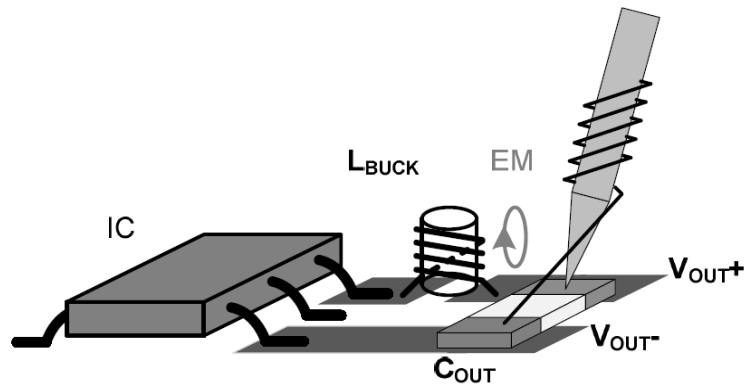

Figure 5. Recommended way to measure the output voltage ripple
A proper output ripple measurement should be done according to Figure 5 setup. Output voltage ripple should be measured across the output ceramic cap near the IC.
1. Remove the ground clip and head of the probe. Wind thin wires around the ground ring of the probe. Solder the end of the ground ring wire to the negative node of the C_{OUT}. Touch the probe tip to the positive node of the C_{OUT}. (Refer to Figure.5).
3. Change the probing direction to decouple the electromagnetic noise generated from the nearby buck inductor. (Refer to Figure.5)